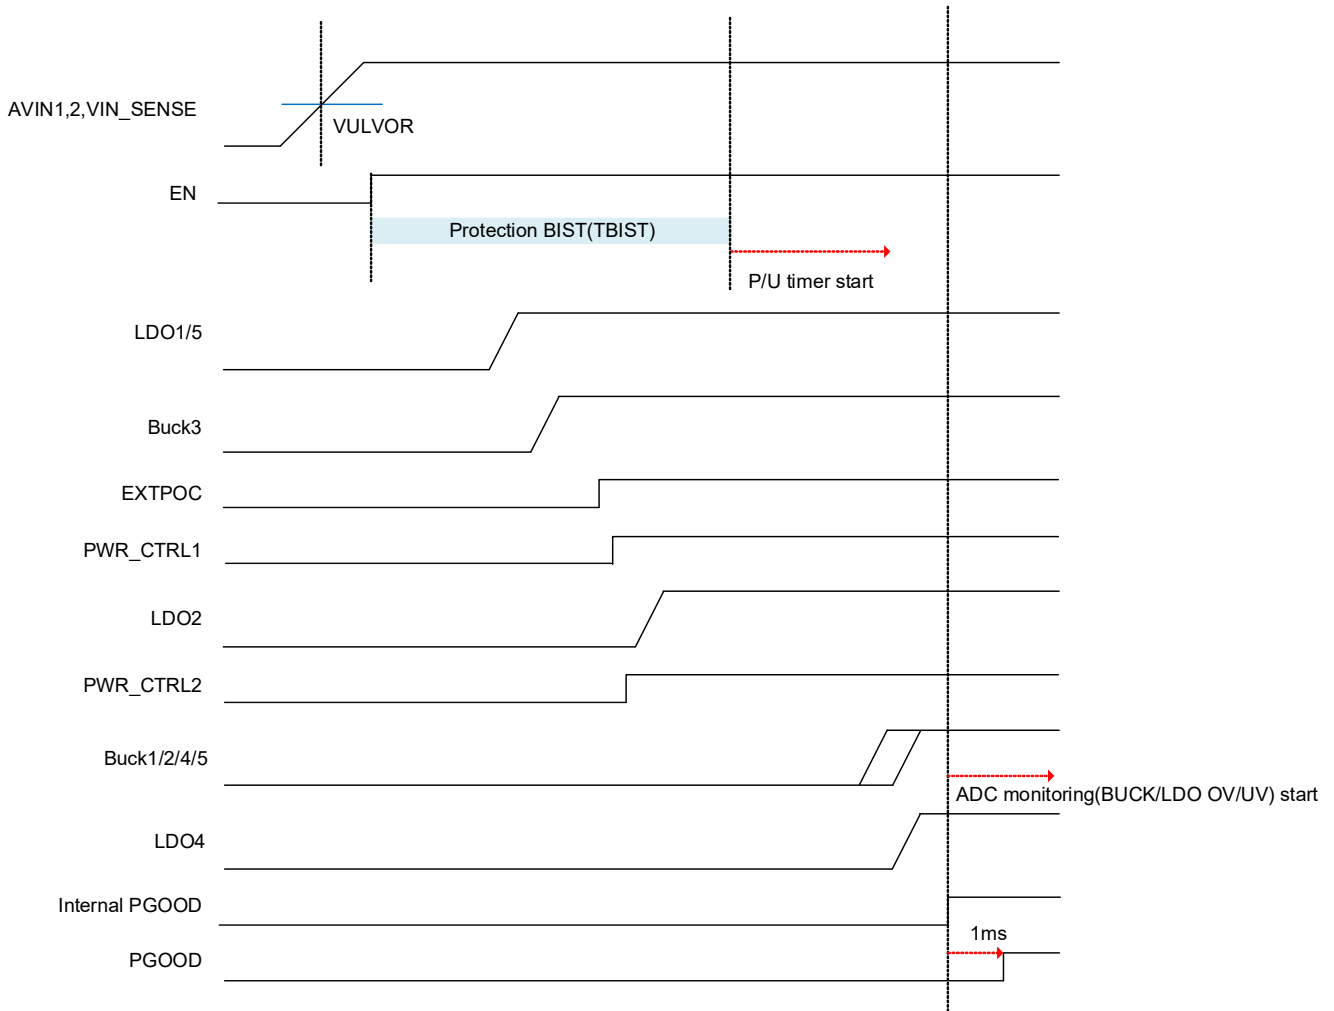
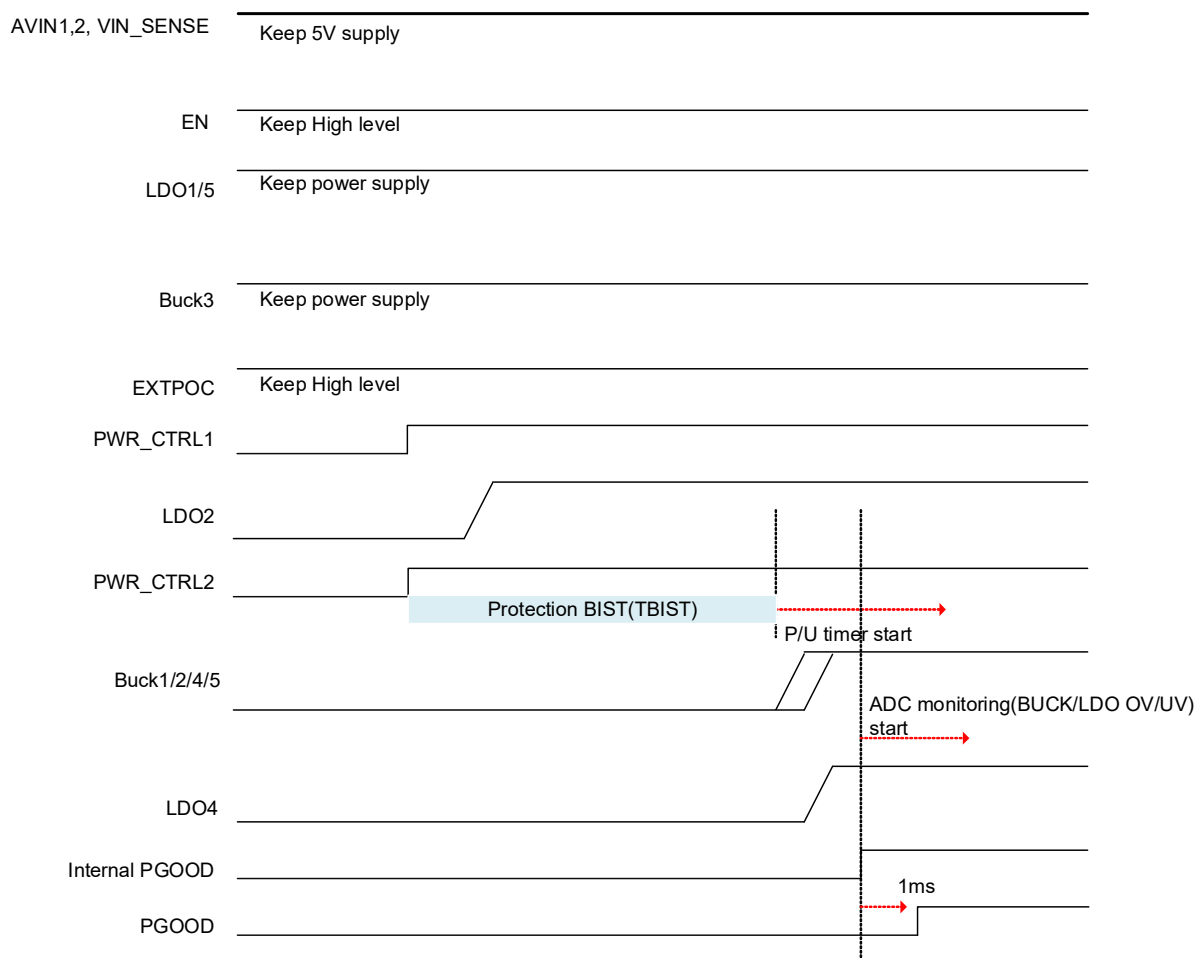

Figure 3. Power Off to Full Run (Cold Start)
Figure 4. DeepStop to Full Run (Warm Start)
- To set On delay and slew rate of each Buck and LDO so that the internal PGOOD goes High after a protection BIST( $T_{BIST}$ ). The protection BIST starts with EN at cold start or with PWR\_CTL2 at warm start (see Figure 3 and Figure 4).